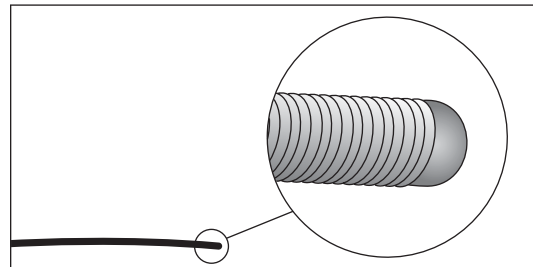

Figure 27
- Examine tip of placement wire after removal to ensure wire has not been altered (see Figure 27).